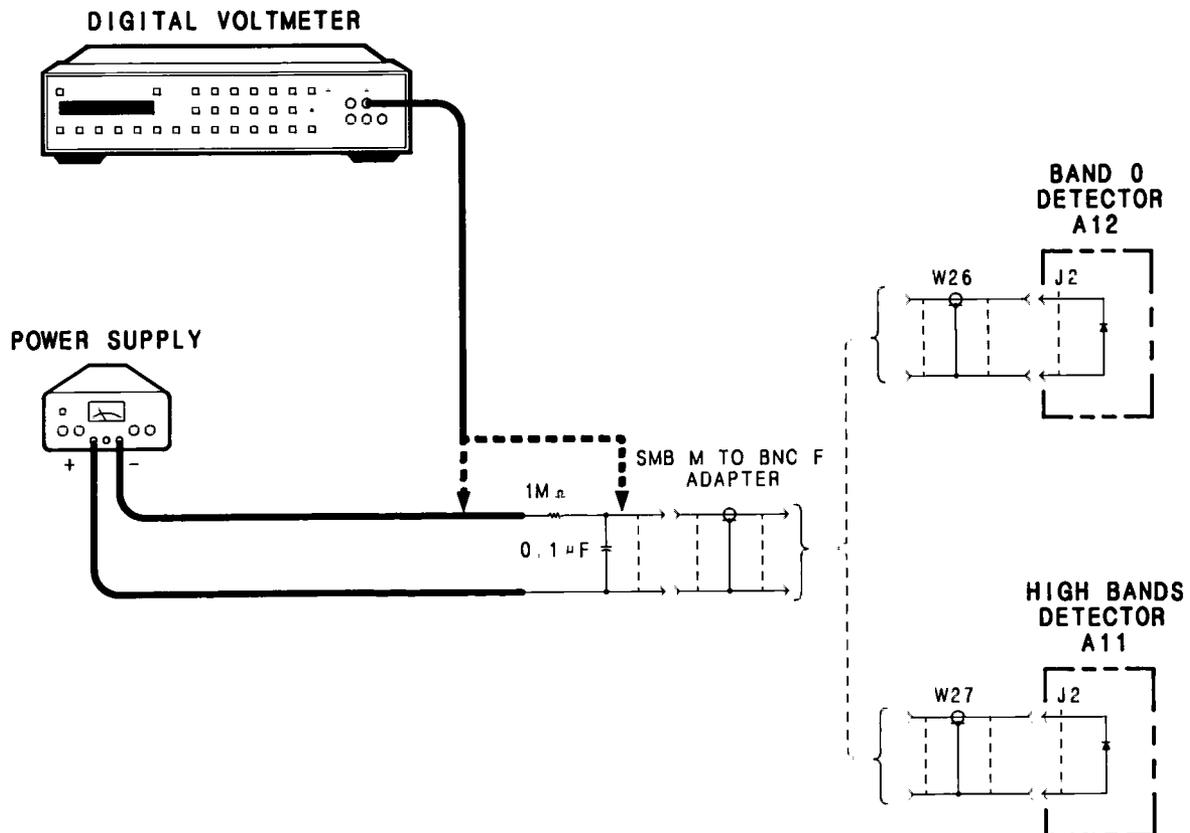

Figure 5-45. Logger Temperature Compensation Test Setup
- 5 Connect the test equipment as shown in Figure 5-45 with cable W27 connector connected to an SMB-to-BNC adapter.
- 6 Connect the DVM across the output terminals of the Power Supply and adjust the power supply output for  $5.00 \pm 0.01$  Vdc. Move the DVM connections back to the SMB-to-BNC adapter as shown in Figure 5-45
10. Disconnect the high band detector A11 cable W27 from the SMB-to-BNC adapter and connect the low band detector A12 cable W26 to the adapter as shown in Figure 5-45.
11. Connect the DVM at the output of the Power Supply and check that the output is still at  $5.00 \pm 0.01$  Vdc. Move the DVM connections back to the SMB-to-BNC adapter as shown in Figure 5-45.